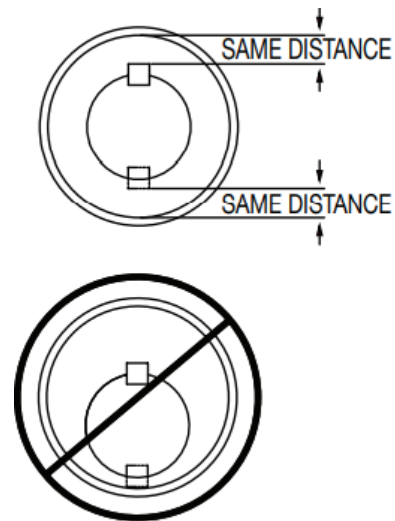

Figure 6 - Motor Slide Installation
5. Install the v-belts and sheaves according to the manufacturer's instructions. Slide the motor slide plate as needed during tensioning of the belts. After the motor has been moved to the final position during belt tensioning, slide the motor slide plate to clear the motor shaft and key equally around the shaft opening in the motor shaft guard. Rotate the motor shaft, if possible, to ensure the key does not contact the guard. See Figure 6. Tighten the motor slide plate mounting screws.